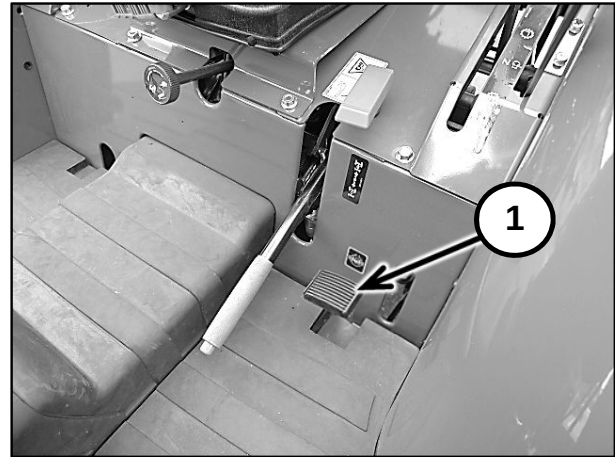

Figure 2-33
The differential lock pedal (1) in Figure 2-33, is located on the left-hand foot platform. The differential lock is used to obtain additional traction in wet or loose soil. When the differential lock pedal is depressed, both final drive pinion gear shafts are locked together, preventing one wheel from rotating independently of the other. Whenever one wheel begins to slip in wet or loose soil, use the lock to obtain additional traction from the opposite wheel.